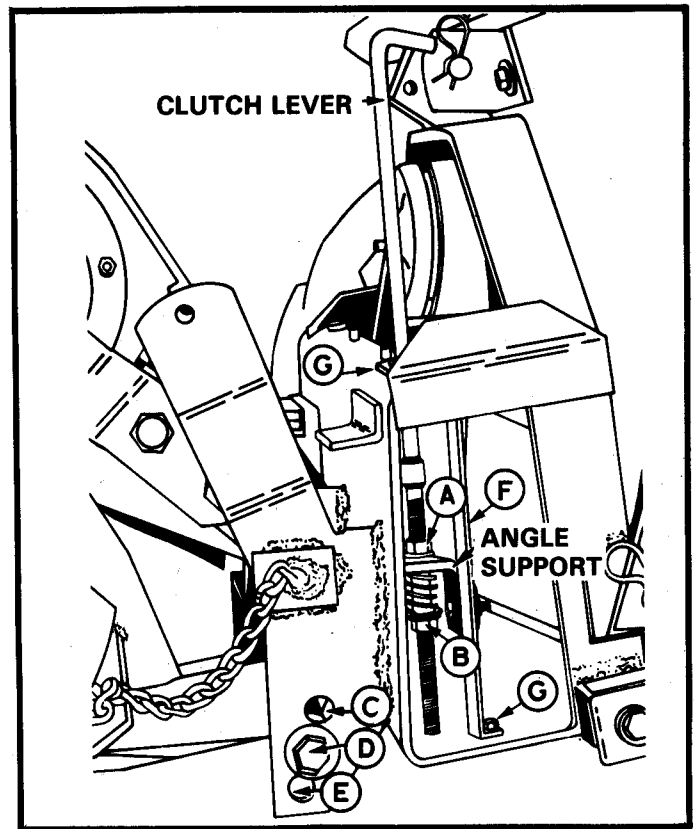

FIGURE 18
1. DISENGAGE THE TILLER CLUTCH LEVER, FIGURE 18.
Tighten belts by loosening nut "A" and tightening nut "B", Figure 18, until proper tension is reached. After belts are
The lower link of the tiller can be adjusted to any one of three positions to increase or decrease the tendency of the tiller to propel the tractor forward. The tiller is factory-assembled in the center hole "D", Figure 18. This setting is usually desirable for most tilling operations.